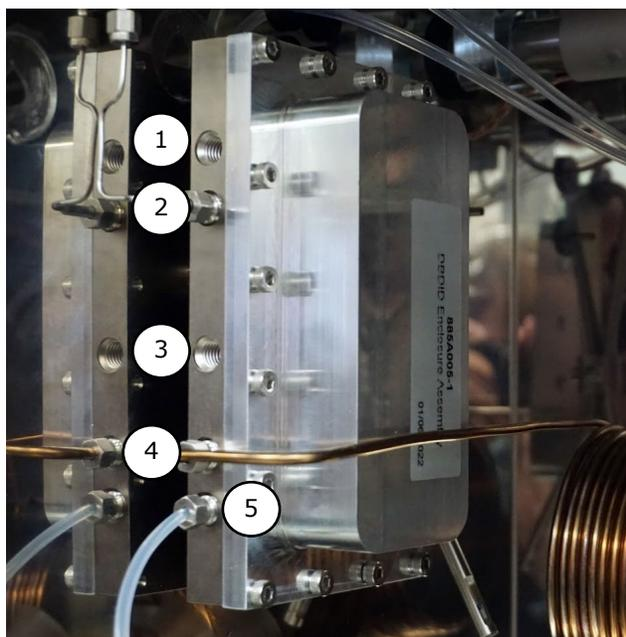

Fig. 8.15. DID Replacement Parts
8.3.12 Optional DID replacement parts (see Figure 8.15)